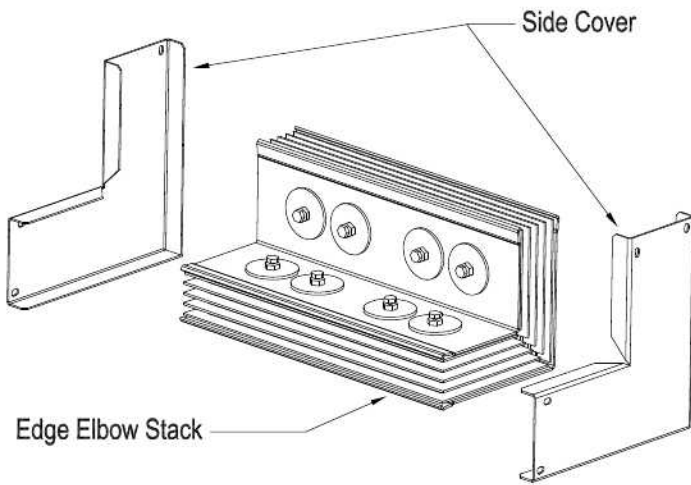
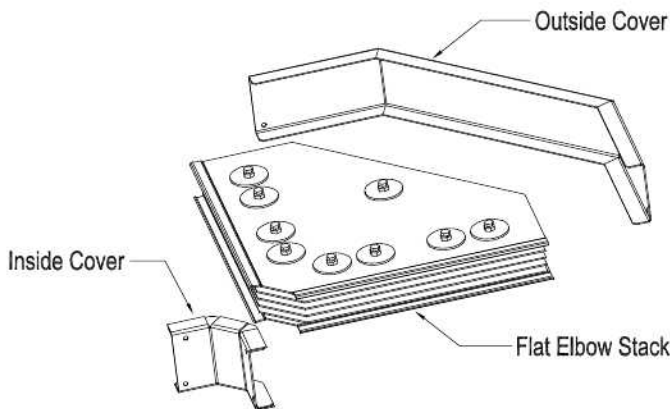

Figure 18. Edge Stack Elbow Assembly
Figure 19. Flat Stack Elbow Assembly
9.3.1 The following installation instructions apply to indoor rated (IP40) elbow stack fittings. Two (2) types of fittings are available, edge elbow stack (Figure 18) and flat elbow stack (Figure 19). These installation instructions apply to either construction.